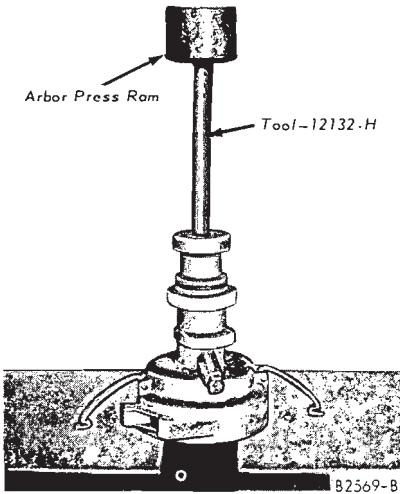

FIG. 10—Removing Bushing—6-Cylinder Engine
16. Refer to Fig. 10 and remove the distributor shaft bushing.